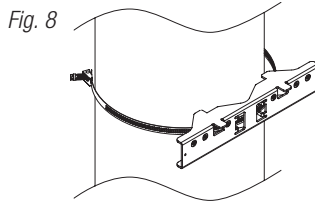

Fig. 8
3. Attach the bottom bracket to the enclosure by inserting bolts through the flange of the enclosure and into the bracket, tightening bolts with a 7/16" hex socket (Fig. 8, pg. 11).
5. Mount enclosure onto the top bracket by inserting bolts through flange of the enclosure and into the bracket, tightening bolts with a 7/16" hex socket (Fig. 8, pg. 11).